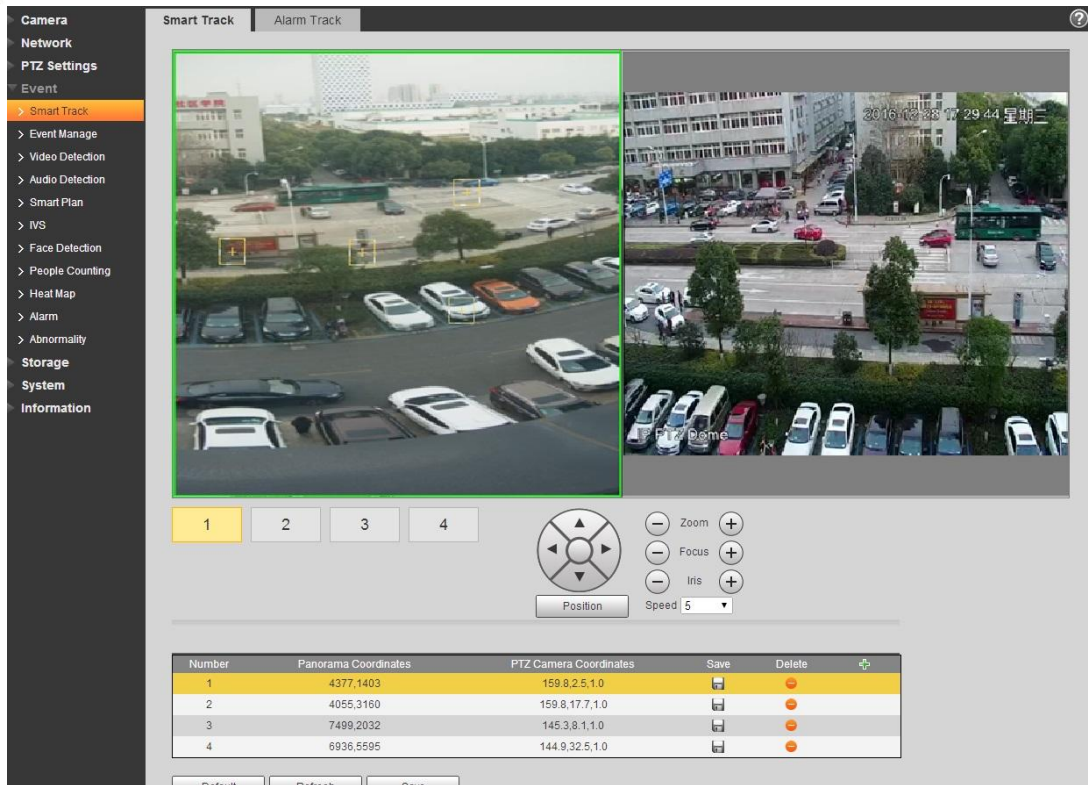

Figure 5-2
Step 1 Select “**Setup > Event > Smart Track > Smart Track**”, and the system will display the interface of **Smart Track**, which is shown in Figure 5-2.